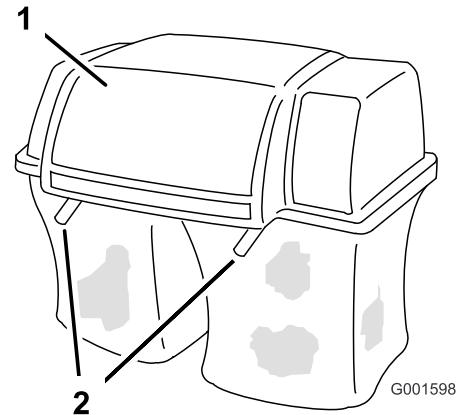

Figure 18
3. Lower the bagger top onto the bags. Then push down on both bag retainer handles until they lock on the bag frame (Figure 18).